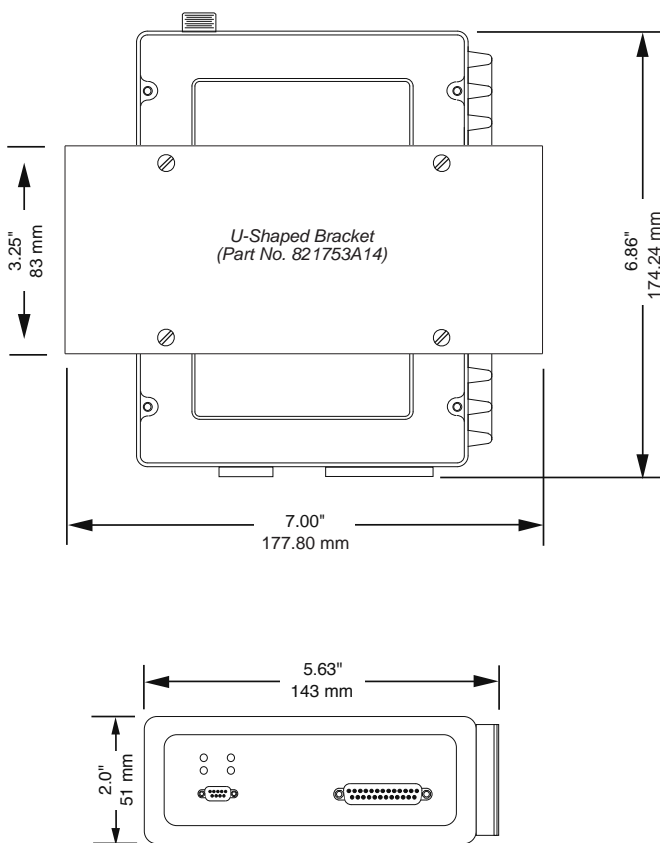

Figure 5. Transceiver Mounting Bracket Dimensions
1. **Mount the transceiver to a stable surface** using the U-shaped bracket provided. Begin by attaching the radio's mounting bracket to the bottom of the transceiver case (if not already attached) using the four 6-32 x 1/4 inch (6 mm) screws supplied. Figure 5 shows the transceiver mounting dimensions with bracket attached.